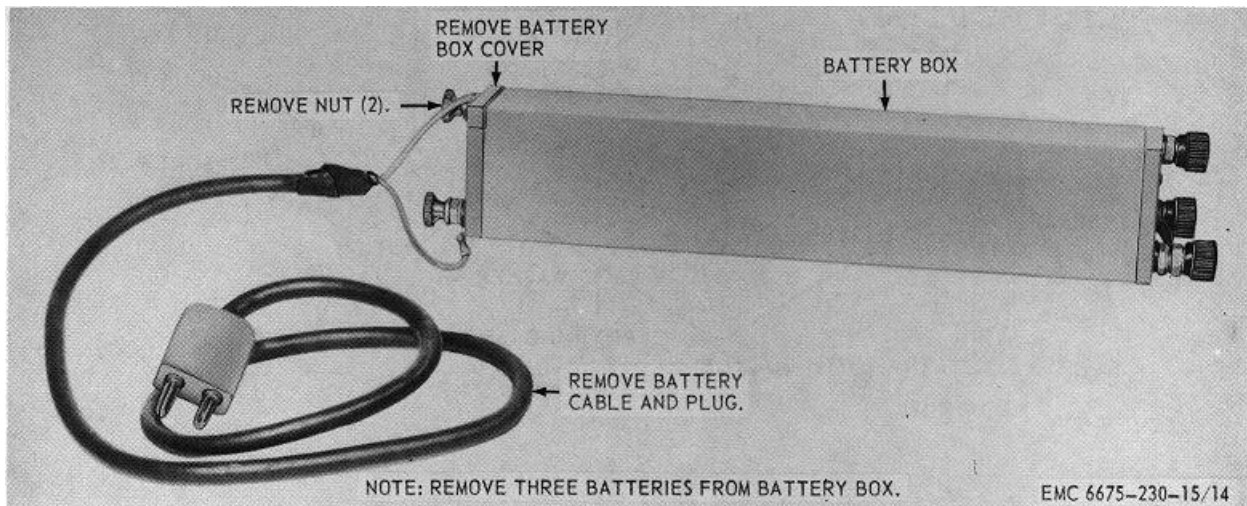

Figure 14. Batteries, removal and installation.
- (2) Refer to figure 14 and remove the battery box cover and batteries.
- (1) Refer to figure 14 and install the battery box cover and batteries.